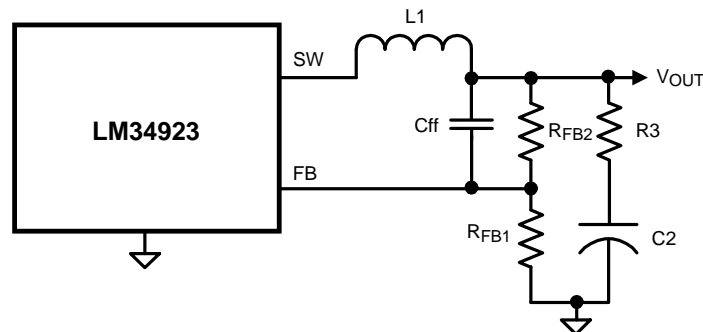

Figure 36. Reduced Ripple Configuration
a) Reduced ripple configuration: In Figure 36, C_{ff} is added across R_{FB2} to AC-couple the ripple at V_{OUT} directly to the FB pin. This allows the ripple at V_{OUT} to be reduced to a minimum of 25 mVp-p by reducing R_3 , since the ripple at V_{OUT} is not attenuated by the feedback resistors. The minimum value for C_{ff} is determined from: